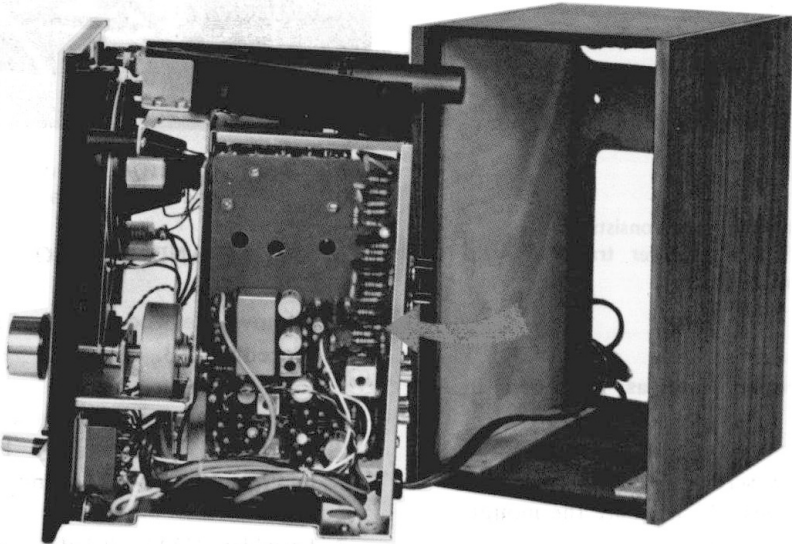

Fig. 2-3. Wooden case removal
2. Push the chassis out carefully and place it on a soft protective pad, otherwise the bottom of the front panel will be scratched. See Fig. 2-3.